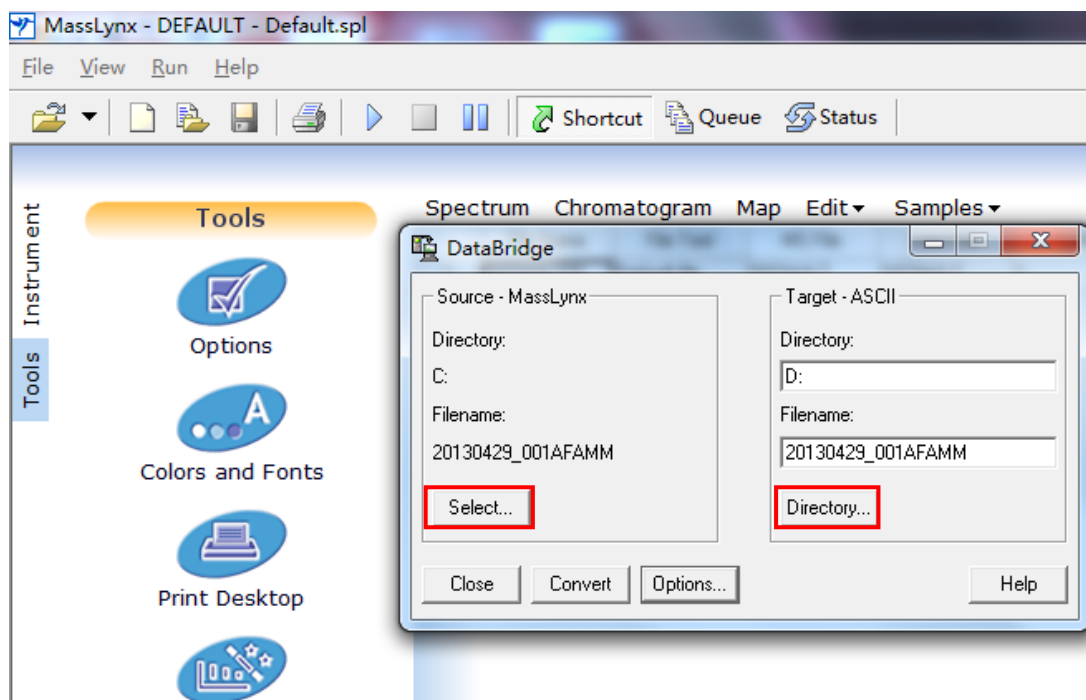

Figure 5. Select the source files and assign the target folder in DBridge.
5. In Dbridge, input the centroid raw data by clicking “Select”, and assign a target folder by clicking “Directory” (Figure 5).